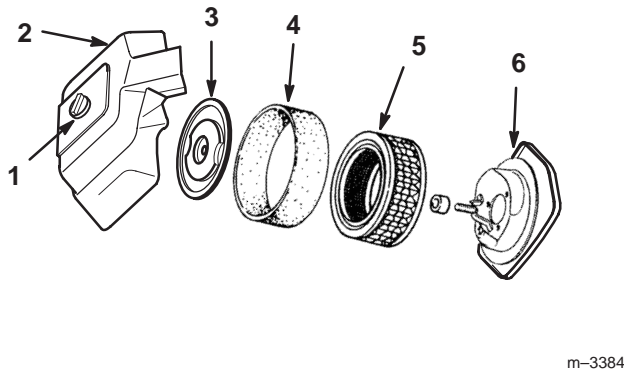

Figure 21
3. Clean around the air cleaner to prevent dirt from getting into the engine and causing damage. Remove the wing nut and air cleaner cover (Fig. 21).
4. Unscrew the nut and remove the cover, foam element and paper element (Fig. 21).
5. Carefully slide the foam element off the paper element (Fig. 21).
1. Carefully slide the foam element onto the paper air cleaner element (Fig. 21).
2. Place the air cleaner assembly into air cleaner base. Slide cover onto rod and secure with nut (Fig. 21).
3. Install the air cleaner cover and secure with wing nut (Fig. 21).